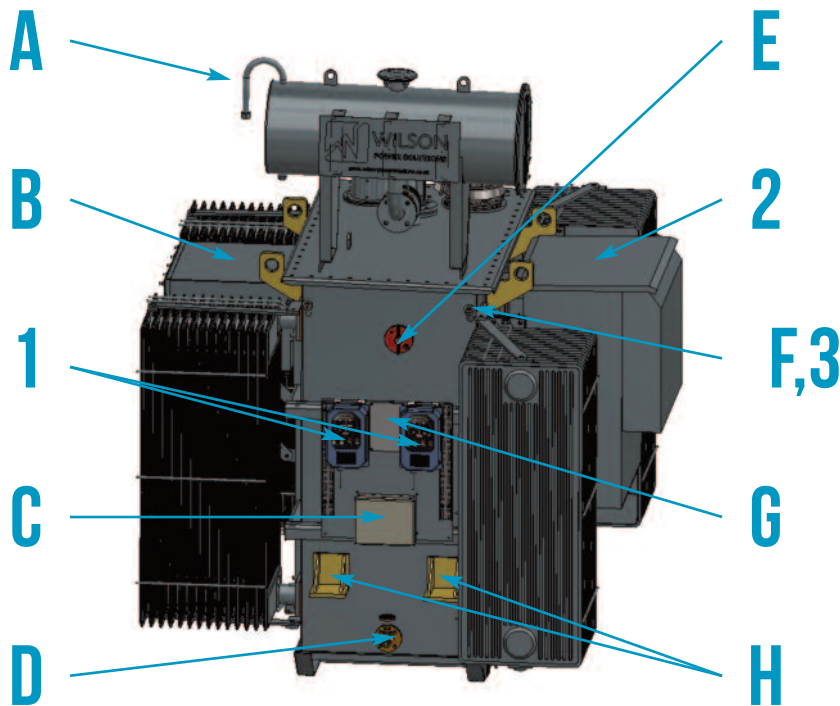
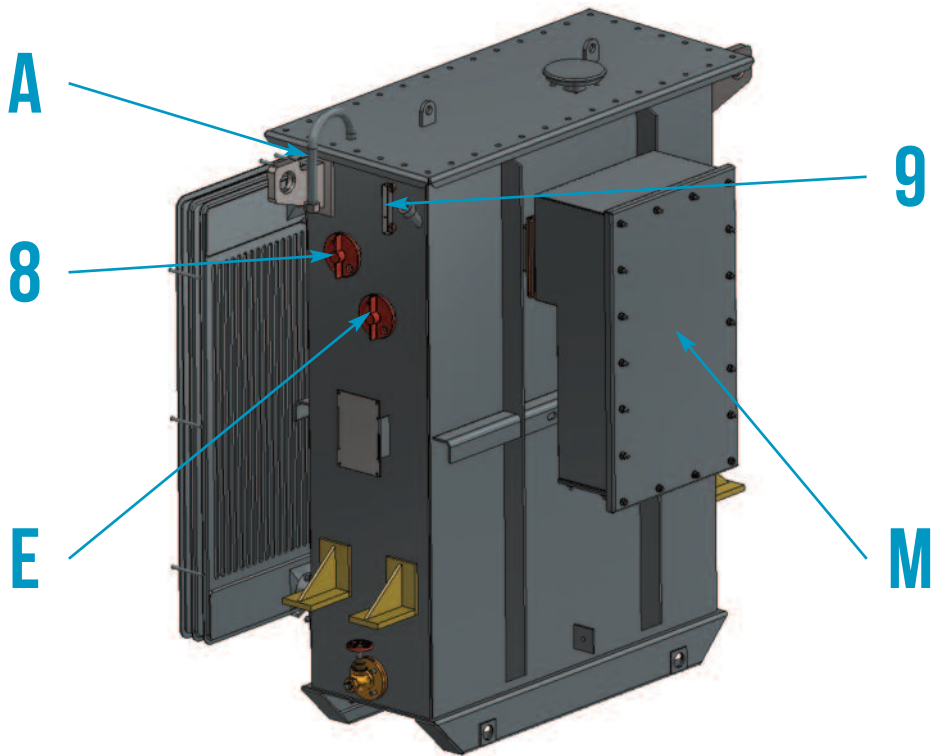

Figure 1a - Transformer View from Tap Switch End
Figure 2 - Dual Ratio Transformer
- A. Connection point for air dehydrating breathers (Figure 1a)
- B. LV connection (standard cable connection) (Figure 1a)
- C. Marshalling Box (Figure 1a)
- D. Drain valve (Figure 1a)
- E. De-energised tap-changer (Figure 1a & Figure 2)
- F. Thermometer pocket (Figure 1a)
- G. Rating plate (Figure 1a)
- H. Jacking points (Figure 1a)
- M. HV connection (standard cable connection) (Figure 2)
1. Oil temperature indicator (OTI)/ Winding temperature indicator (WTI) (Figure 1a)
2. Ring main units/ACB/ other connections (Figure 1a)
3. Thermometer, to install on the thermometer pocket (Figure 1a)
8. Off circuit dual ratio changer (Figure 2)
9. Oil level indicator (Figure 2)